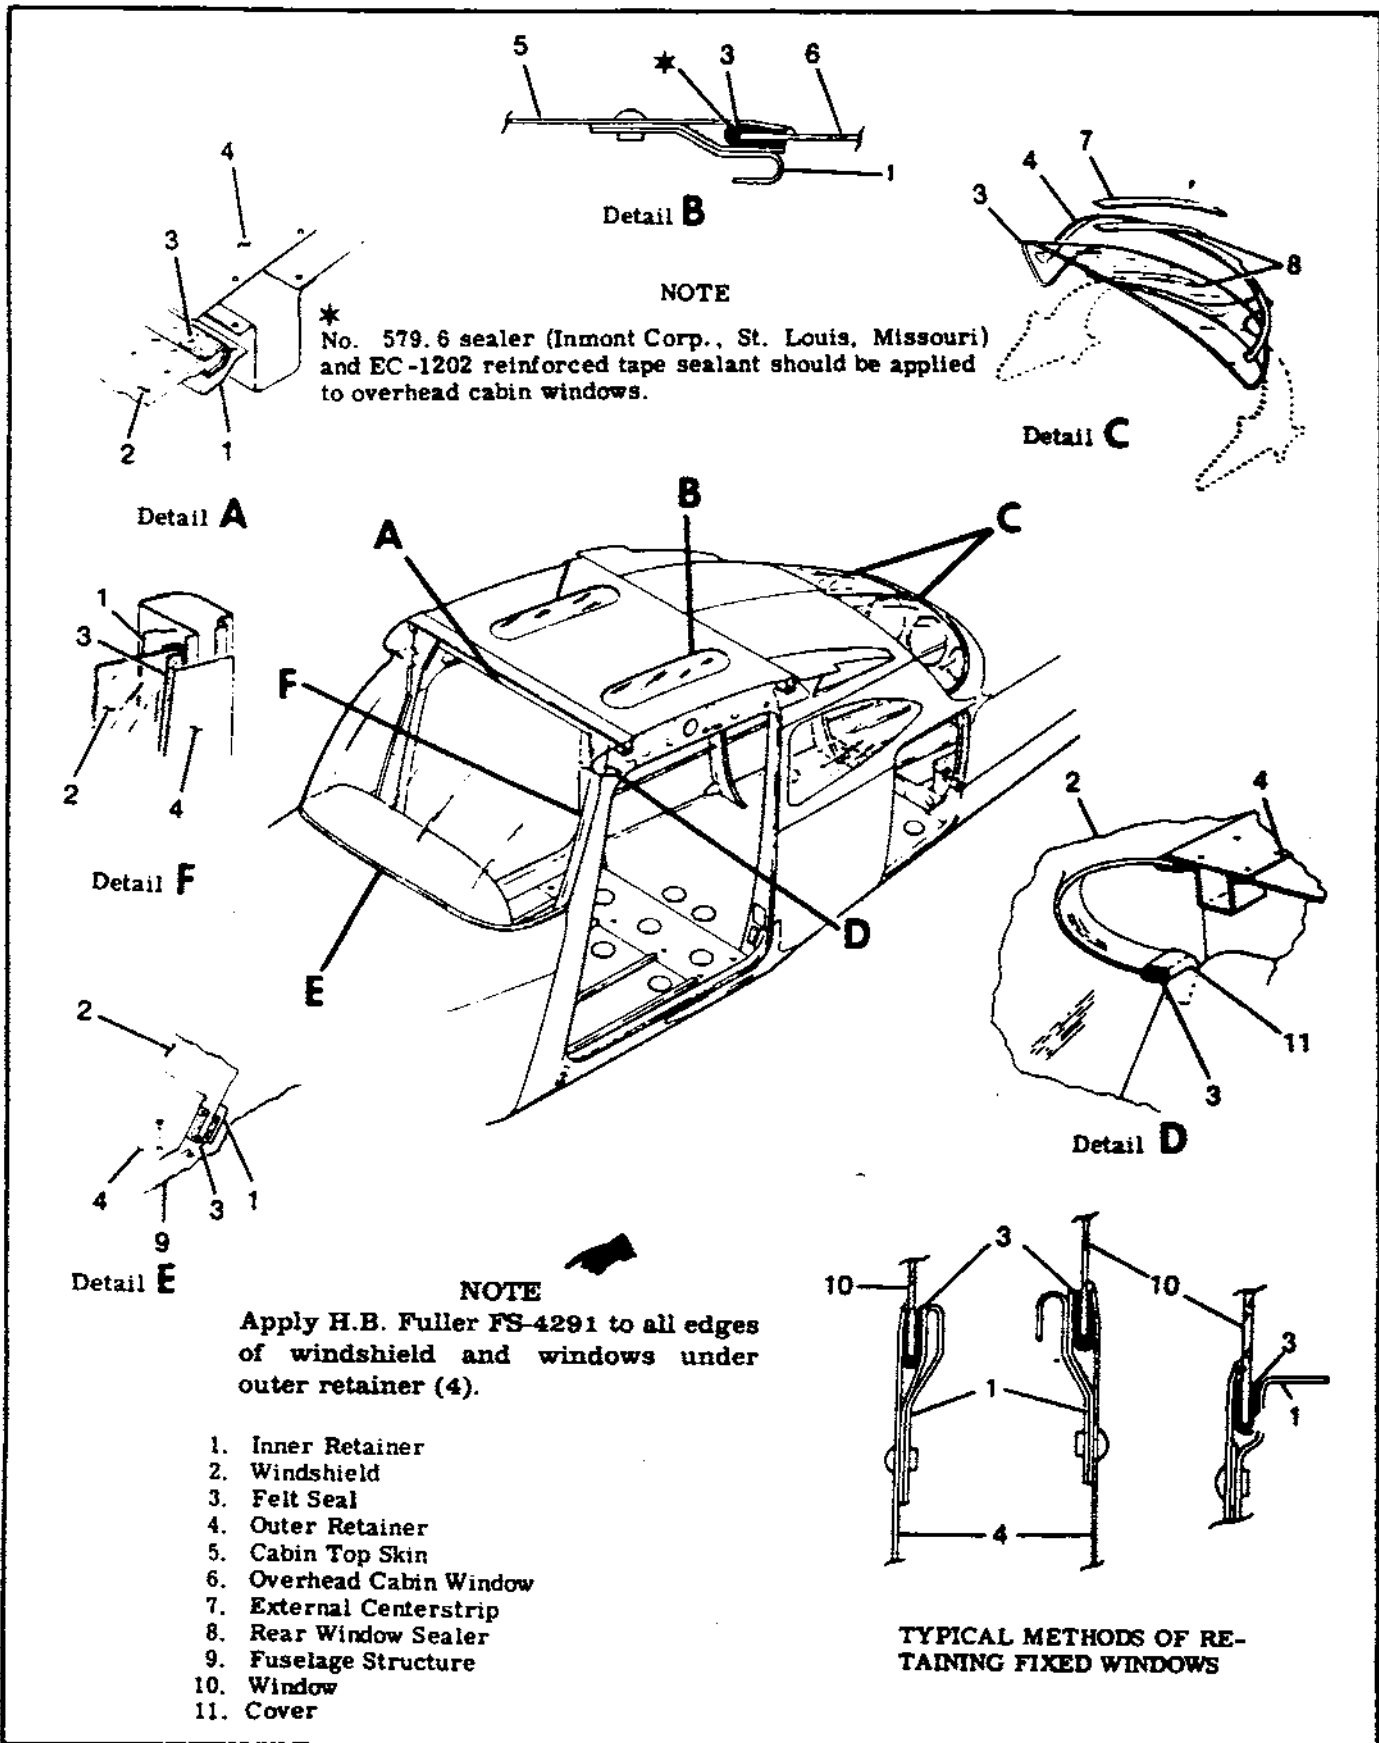
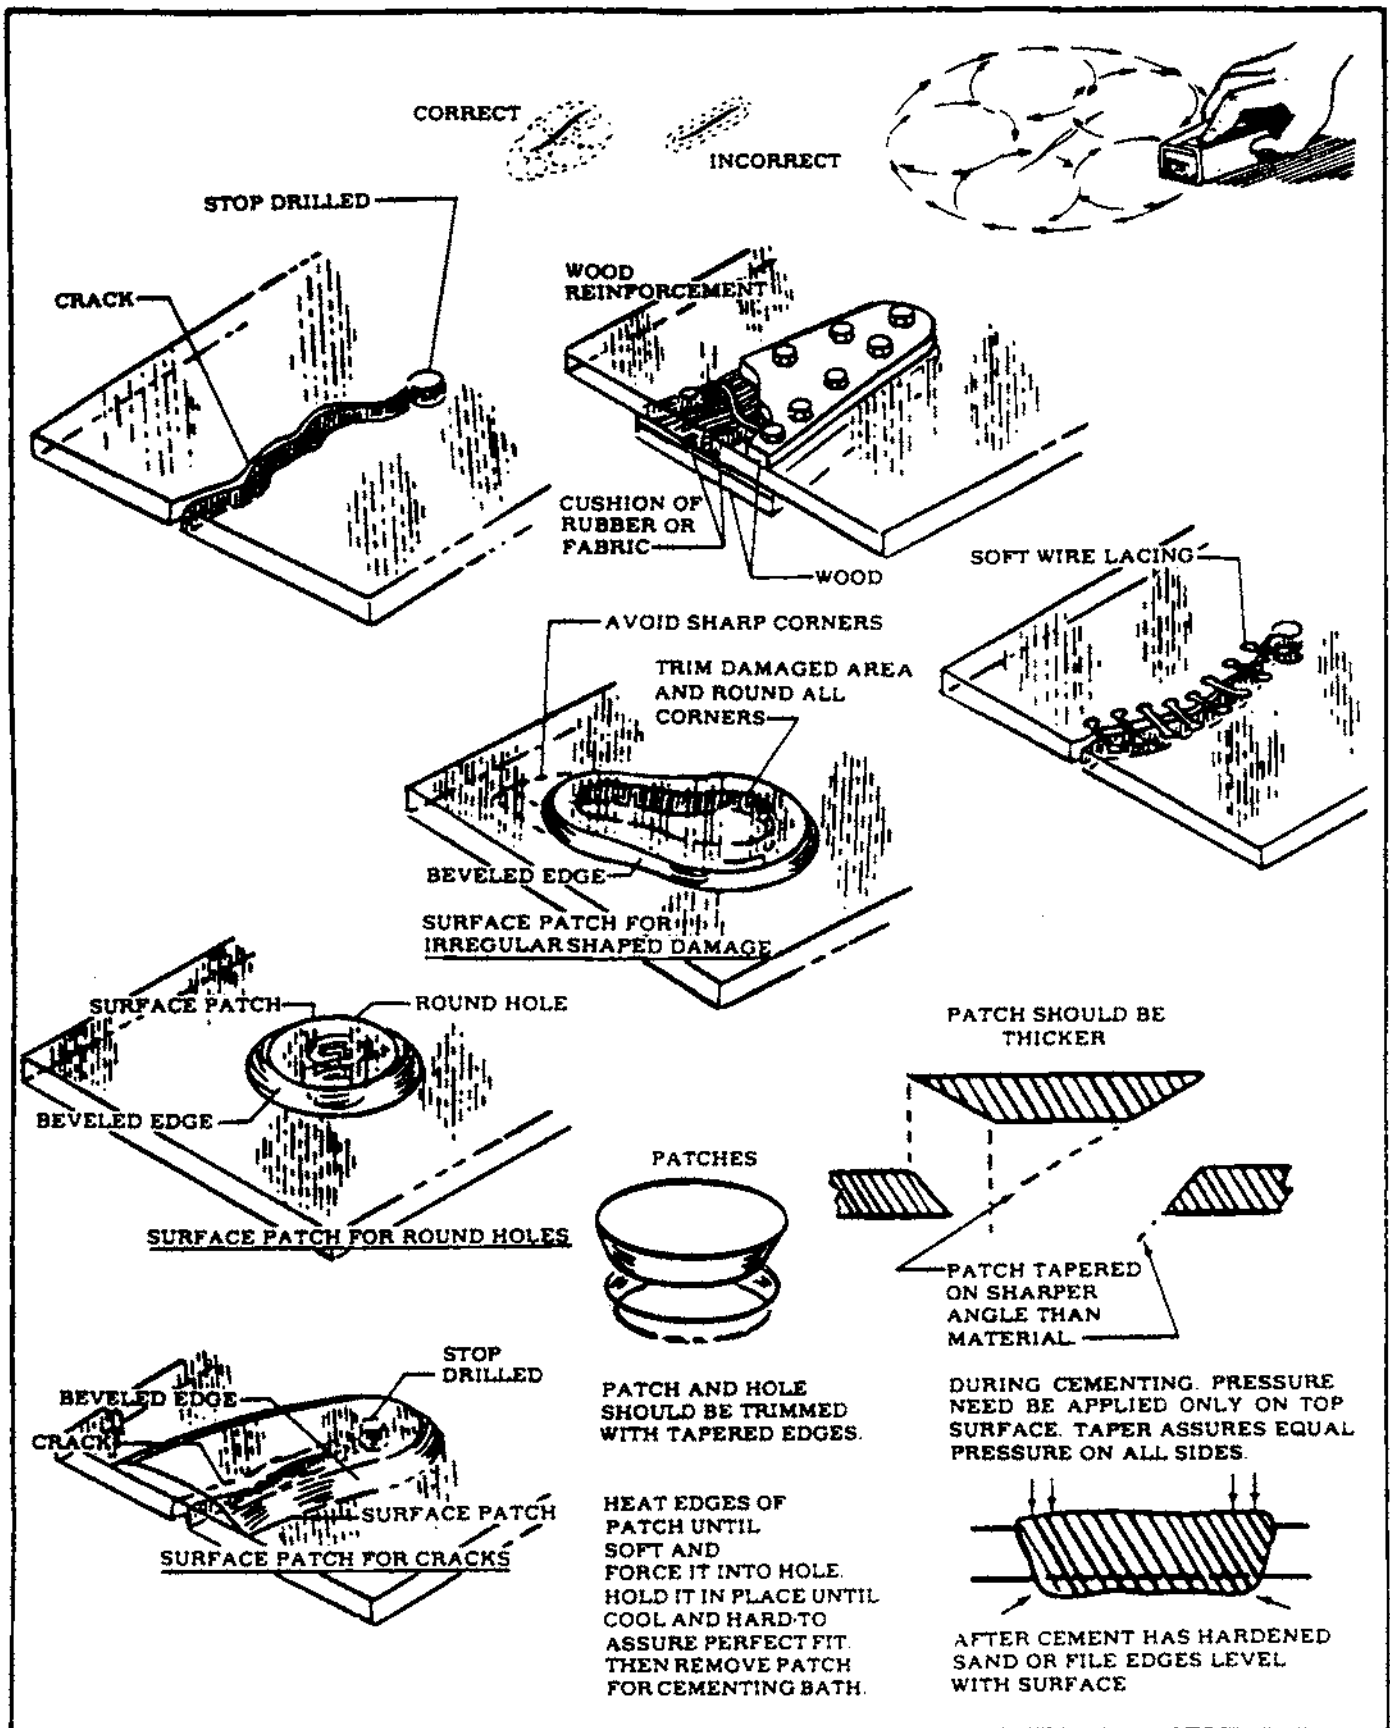

Figure 3-1. Windshield and Fixed Window Installation
Figure 3-2. Repair of Windshield and Windows
3-2. WINDSHIELD AND WINDOWS. (See figure 3-1.)
- 3-6. **REPAIR.** (See figure 3-2.) Replace extensively damaged transparent plastic rather than repair whenever possible, since even a carefully patched part is not the equal of a new section, either optically or structurally. At the first sign of crack development, drill a small hole at the extreme end of the crack as shown in figure 3-1. This serves to localize the cracks and to prevent further splitting by distributing the strain over a large area. If the cracks are small, stopping them with drilled holes will usually suffice until replacement or more permanent repair can be made. The following repairs are permissible; however, they are not to be located in the pilot's line of vision during landing or normal flight.
- a. **SURFACE PATCH.** If a surface patch is to be installed, trim away the damaged area and round all corners. Cut a piece of plastic of sufficient size to cover the damaged area and extend at least 3/4-inch on each side of the crack or hole. Bevel the edges as shown in figure 3-1. If the section to be repaired is curved, shape the patch to the same contour by heating it in an oil bath at a temperature of 248° to 302°F., or it may be heated on a hot plate until soft. Boiling water should not be used for heating. Coat the patch evenly with plastic solvent adhesive and place immediately over the hole. Maintain a uniform pressure of from 5 to 10 psi on the patch for a minimum of three hours. Allow the patch to dry 24 to 36 hours before sanding or polishing is attempted.
- b. **PLUG PATCH.** In using inserted patches to repair holes in plastic structures, trim the holes to a perfect circle or oval and bevel the edges slightly. Make the patch slightly thicker than the material being repaired, and similarly bevel the edges. Install patches in accordance with procedures illustrated in figure 3-1. Heat the plug until soft and press into the hole without cement and allow to cool to make a perfect fit. Remove the plug, coat the edges with adhesive, and then reinsert in the hole. Maintain a firm light pressure until the cement has set, then sand or file the edges level with the surface; buff and polish.
- 3-7. **SCRATCHES.** (See figure 3-2.) Scratches on clear plastic surfaces can be removed by hand-sanding operations, followed by buffing and polishing, if the steps below are followed carefully.
3-8. CRACKS. (See figure 3-2.)
3-9. WINDSHIELD. (See figure 3-1.)
3-12. WINDOWS. (See figures 3-1 and 3-3.)
3-15. **WRAP-AROUND REAR WINDOW.** (See figure 3-1.) The rear window is a one-piece, acrylic plastic panel, set in sealing strips and held in place by retaining strips.
3-16. REMOVAL AND INSTALLATION. (See figure 3-1.)
3-17. **OVERHEAD WINDOW.** (See figure 3-1.) Overhead cabin windows, located in the cabin top, may be installed. These windows are one-piece, acrylic plastic panels, set in sealing strips and held in place by retaining strips.
3-18. REMOVAL AND INSTALLATION. (See figure 3-1.)
3-19. **FIXED.** (See figure 3-1.) Fixed windows, mounted in sealing strips and sealing compound, are held in place by various retainer strips. To replace side windows, remove upholstery and trim panels as necessary, and drill out rivets securing retainers. Apply felt strip and sealing